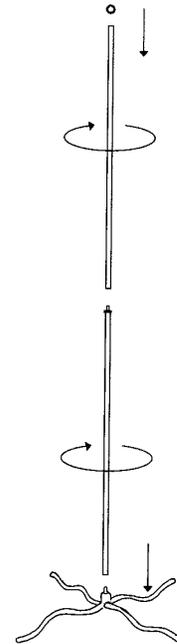

Figure 2
3. **(figure 2)** Thread the stem with the narrow brass ring onto the base. It is very important that you thread this stem on very tightly to ensure the Maypole is stable.
4. **(figure 2)** Thread the second stem piece onto the first. Make sure it is threaded tightly.
5. **(figure 2)** Does your stand look straight? If not, you can gently bend the stem straight while stepping on the base with your feet.